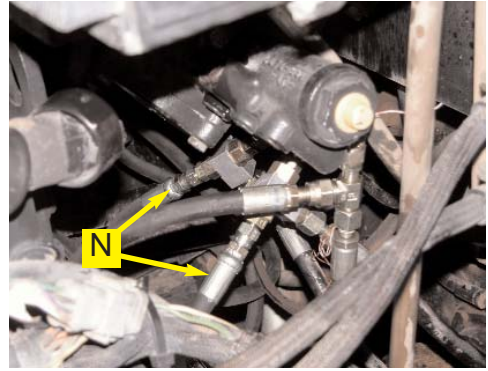

Figure 6a. Installed automated steering hoses at load shuttles.
Connect the automated steering hoses (N) from the **A** and **B** ports on the Automated Steering Block to the open ends of the load shuttles installed in step 5. (Figure 6a and 6b.)